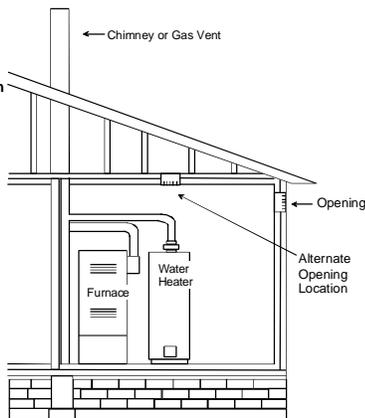

**Figure A.9.3.3.1(2) All Combustion Air From Outdoors through Horizontal Ducts.**
**9.3.3.2\* One Permanent Opening Method.** One permanent openings, commencing within 12 in. (300 mm) of the top of the enclosure, shall be provided. The appliance shall have clearances of at least 1 in. (25 mm) from the sides and back and 6 in. (150 mm) from the front of the appliance. The opening shall directly communicate with the outdoors or shall communicate through a vertical or horizontal duct to the outdoors or spaces that freely communicate with the outdoors (*see Figure A.9.3.3.2*) and shall have a minimum free area of the following: